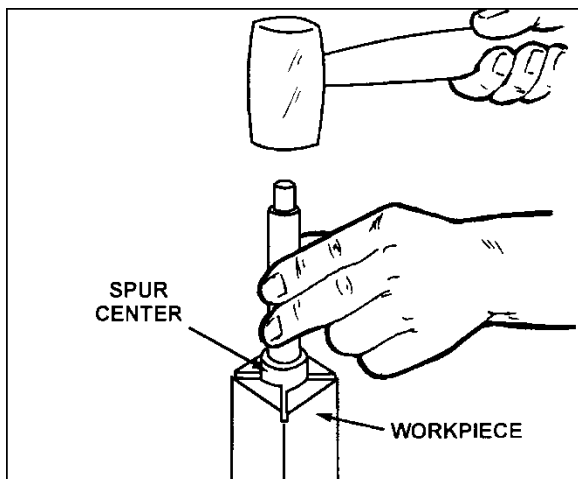

Figure 28
3. Drive the spur center about 1/4" into the workpiece, using a wood mallet or dead blow hammer as shown in Figure 28. Be careful that you do not split the workpiece. **Never use a steel face hammer and never drive the workpiece onto the spur center while it is mounted in the Lathe spindle.**